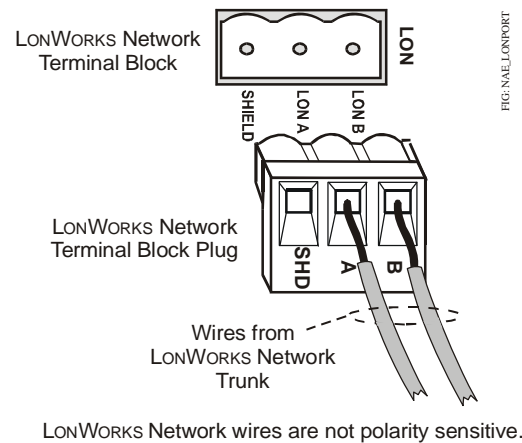

Figure 6: LONWORKS Network Terminal Block and Wiring Connections
- For LONWORKS compatible networks, connect the wires from the LON network trunk to the removable 3-terminal plug (Figure 6).